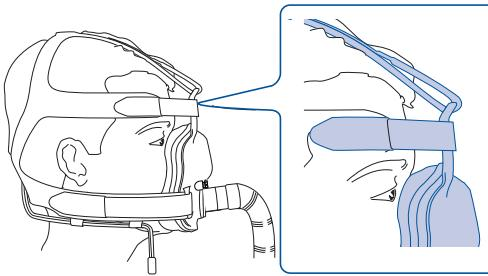

Figure: 6
**6** The fitted mask should look like this (Fig. 6):